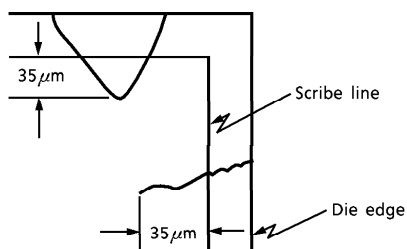

Fig.1
- a) Any crack of chip extends greater than 35 $\mu$ m in length into the inside of the scribble line. (see Fig.1)